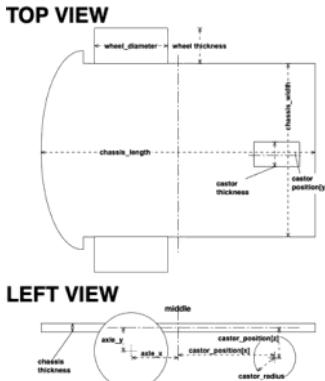

Figure 16.1 – Measurements for the virtual robot
Figure 16.1 shows the measurements across the robot. A top view and a left view show to cover the different aspects. This includes the width and height of the base—note that we are treating it as a rectangle for this purpose. The wheels' size and position, along with the castor-wheel size and position, are needed. Measure or guess these for your robot. For our purposes, guesses are good enough. Positions come from the middle of the chassis.
3. We put the robot's measurements from Figure 16.1 in variables. I've used **millimeters (mm)** for all of them. The code is shown in the following snippet: